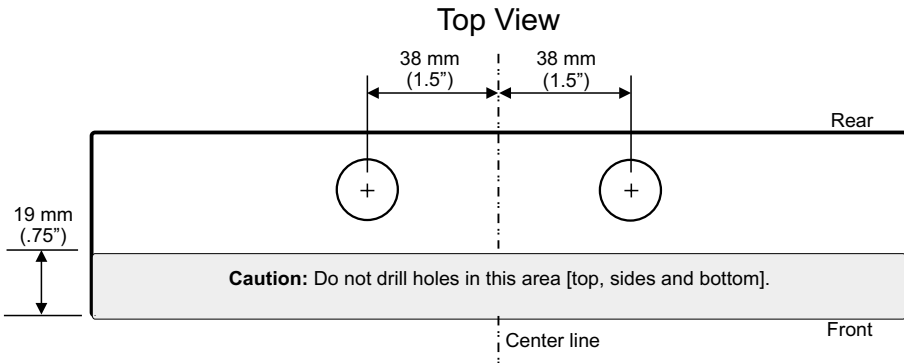

Figure 2-1 Location to Drill Wiring Hole
- If you must put the hole in the top of the housing, place the hole in either of the locations shown in Figure 2-1 below to ensure that the wire has sufficient clearance.
Caution: Do not drill in the front one-third of the housing (the shaded area in Figure 2-1) on any side, or the circuit board will obstruct the opening.